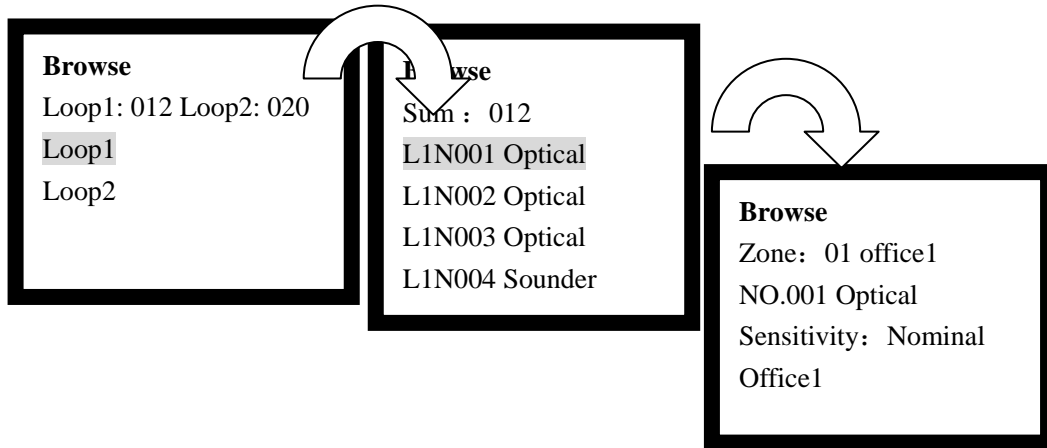

Fig. 6-4
- ◇ Entering number 1 to choose "1. Loop Devices" will enter the screen to view devices by loop, as shown in Fig. 6-4.